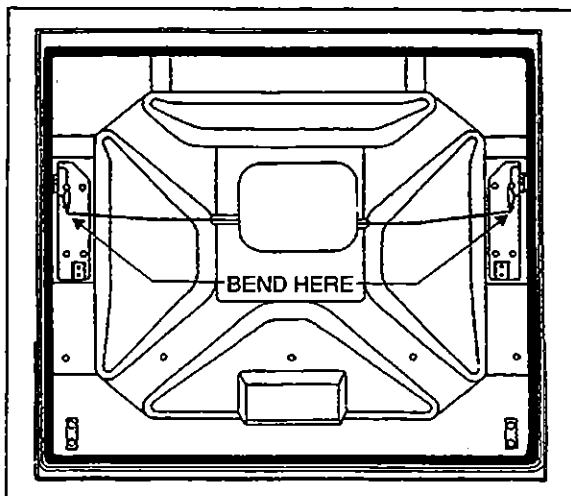

Figure 24
7. With door slightly open, pull door handle while an assistant checks that both latches release simultaneously. If not, with latch engaged, gently bend the appropriate latch control rod until proper timing is achieved. Refer to figure 24.